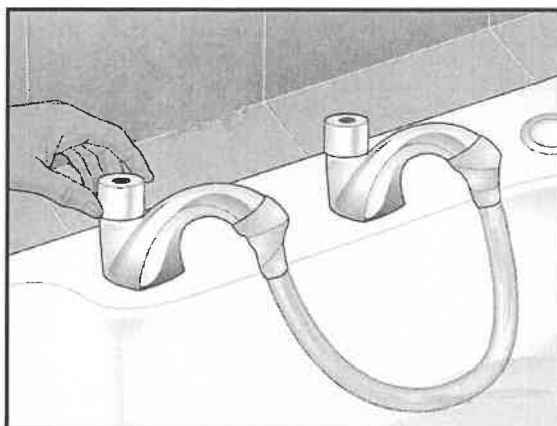

FIGURE 4.3
- 4.3 FIGURE 4.3 below shows a pipe connected to cold- and hot-water taps, used to solve a fault in the water pipes.